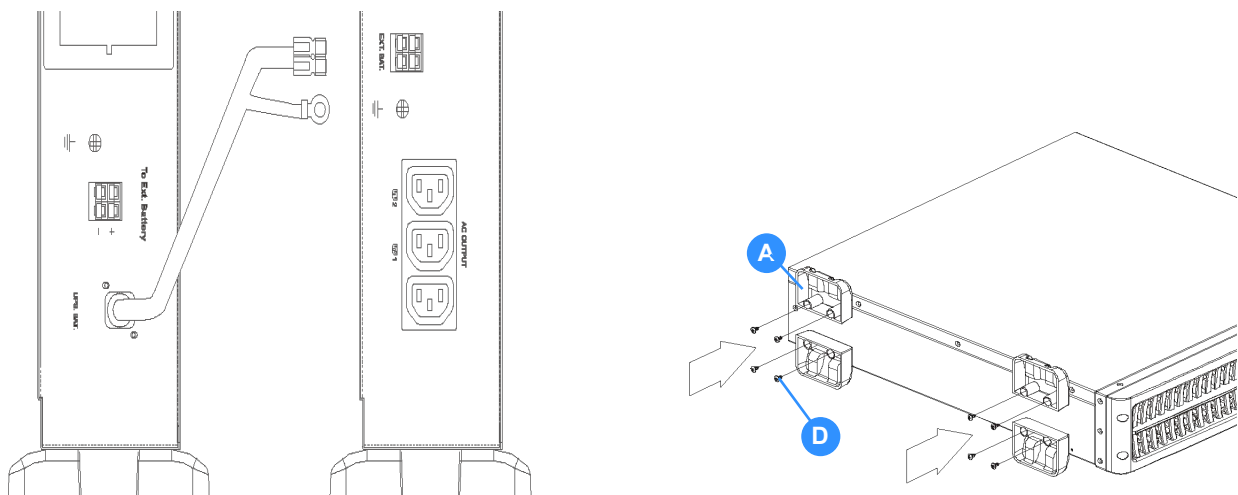
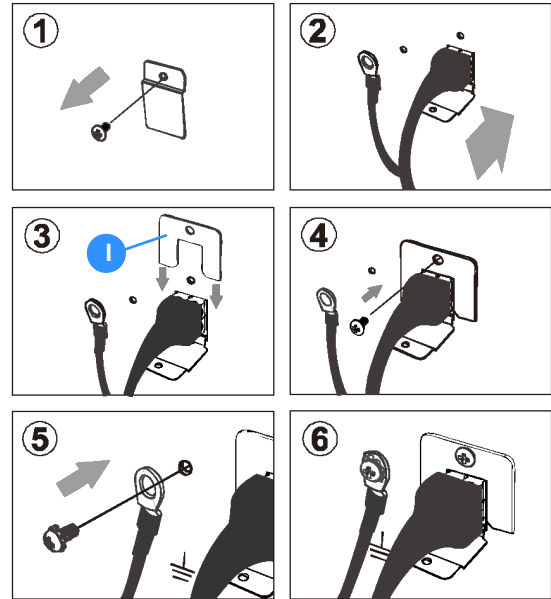

Figure 3.10 Battery cabinet tower assembly
Figure 3.11 Battery cable connection
2. Lay the battery cabinet on its side and attach the feet to its outer edge only Figure 3.10.
3. With the battery cabinet still on its side (with the feet pointing downwards), carefully place the UPS cabinet on top of the battery cabinet and fit the two attachment links using the supplied dome-headed screws (D). Ensure that the front of the cabinets are correctly aligned before you fully tighten the screws.
- Connect the battery cables to the UPS as described above and illustrated in Figure 3.11.
If an external battery cabinet is used, connect the battery power cable and protective earth cable to the UPS as shown in Figure 3.11.